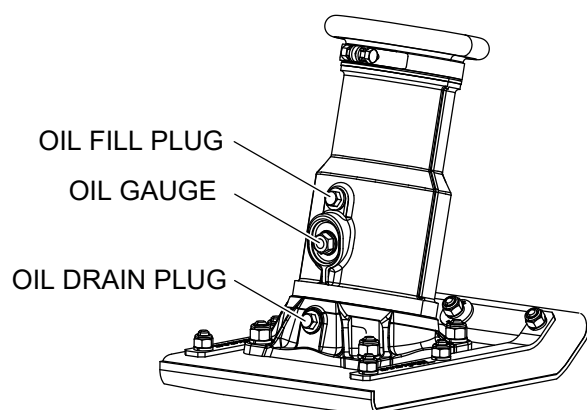

Figure 5. Foot Housing Sight Glass
1. Check the oil level through the oil level sight glass (Figure 5) at the rear of the tamper foot.
2. If oil is not visible, add 10W-30 SE, SF or higher grade motor oil into the oil fill plug opening (Figure 5). The bath contains approximately 0.69 qt. (0.65 liter).